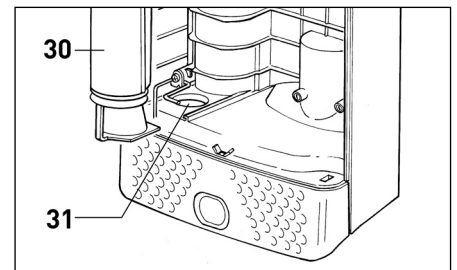

Figure 11
Changing the Pre-motor Microfilter - Figure 11
3. Microfilter not properly inserted.	3. Lift safety lever and insert filter with vertical plastic ridge on filter facing you (see pg. 10, figure 11).